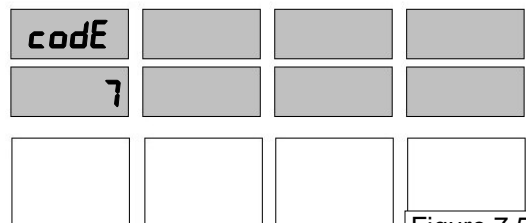

Figure 7.5
7. To turn OFF the Blender option, press the 0 button and the main display now appears like Figure 7.5.